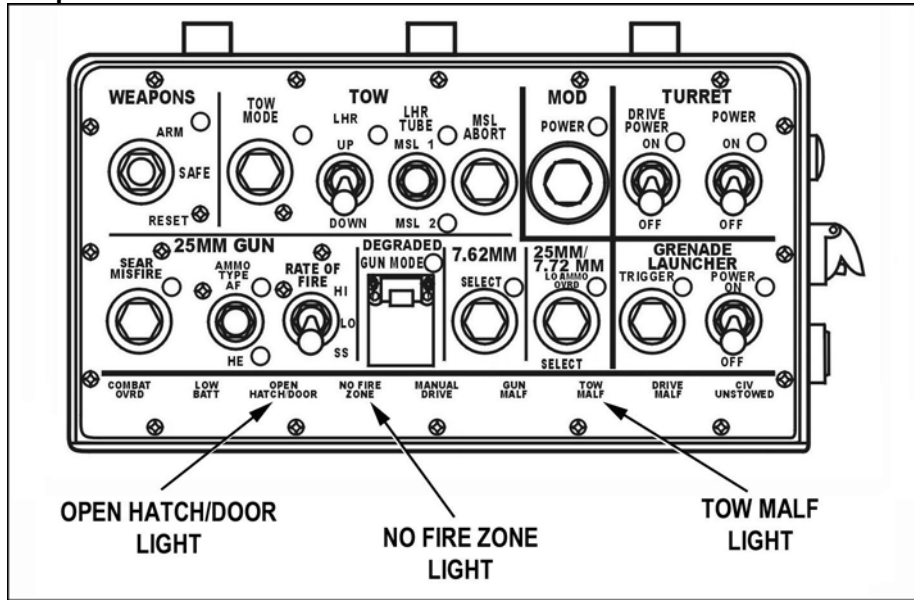

Figure 10. Annunciator lights.
- f. Check that the OPEN HATCH/DOOR, NO FIRE ZONE, and or TOW MALF annunciator lights are off (Figure 10).